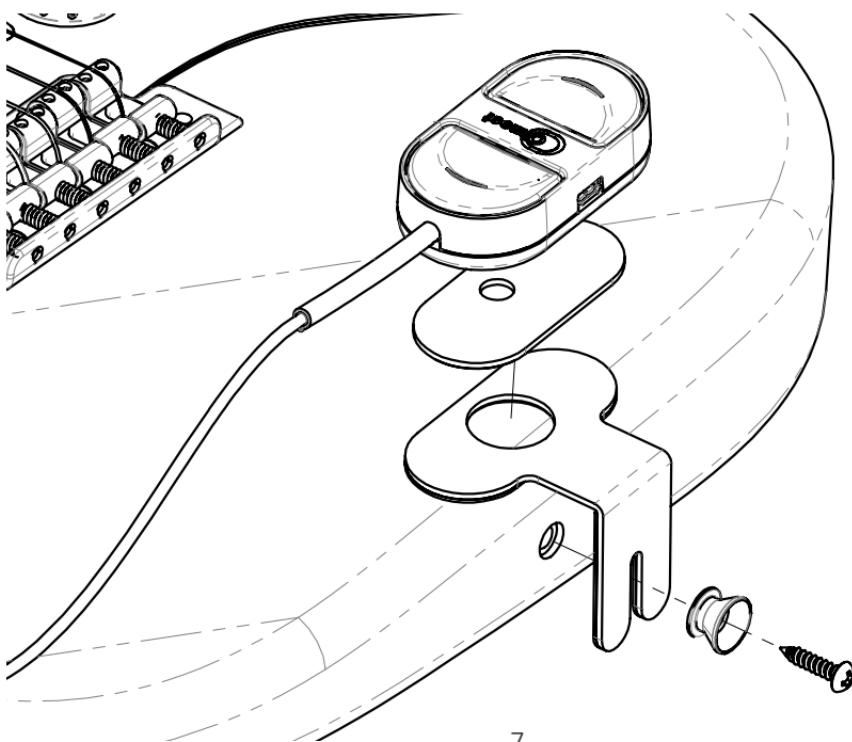

Fig 1
1. Loosen the guitar's endpin strap button slightly (Fig 1).